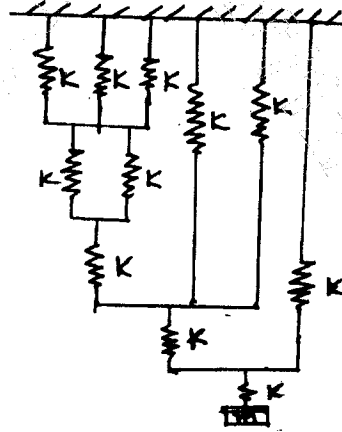

Fig. Q2(b)
- b. Find natural frequency of system shown in Fig Q2(b) Let  $K = 2 \times 10^5 \text{ N/m}$ ,  $m = 20 \text{ kg}$ .